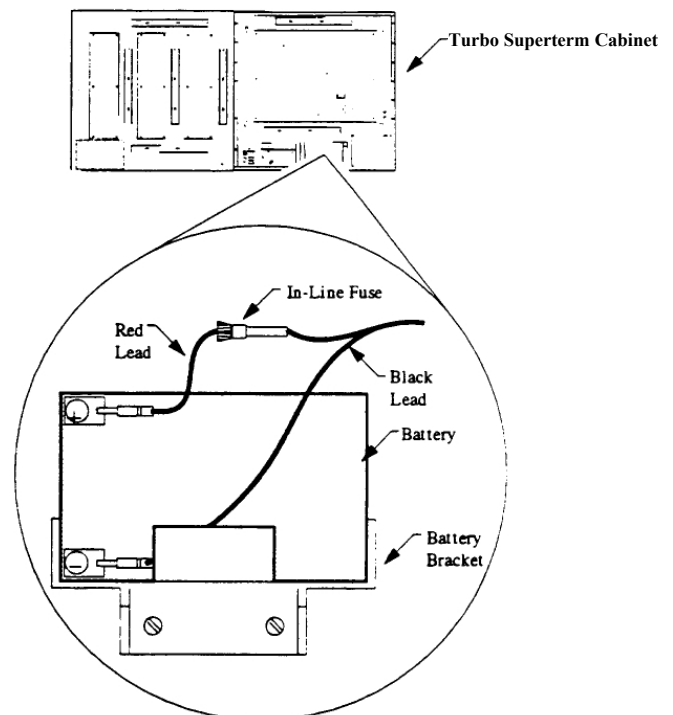

Figure 57 - Turbo Superterm Battery/In-Line Fuse Location
1. Open the Turbo Superterm cabinet and locate the backup battery (P/N CI-HE0042 & CI-HE0047) secured to the lower center ledge of the cabinet (see Figure 57).
1. Open the Turbo Superterm cabinet and locate the backup battery secured to the lower center ledge of the Turbo Superterm cabinet (see Figure 57).